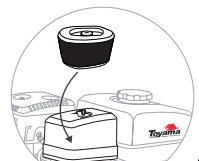

IMAGEN 2
- VERIFIQUE LA LIMPIEZA DEL FILTRO DE AIRE; **(IMAGEN 2)**